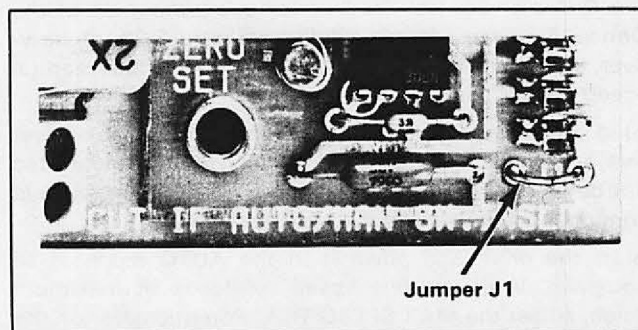

Figure 5.26 — Jumper J1 on Reference Receiver Module
**Step 7** — If an AUTO/MANUAL selector switch is included in the Operator Control Station, cut jumper J1 on the Reference Receiver Module. (Refer to Figure 5.26.)